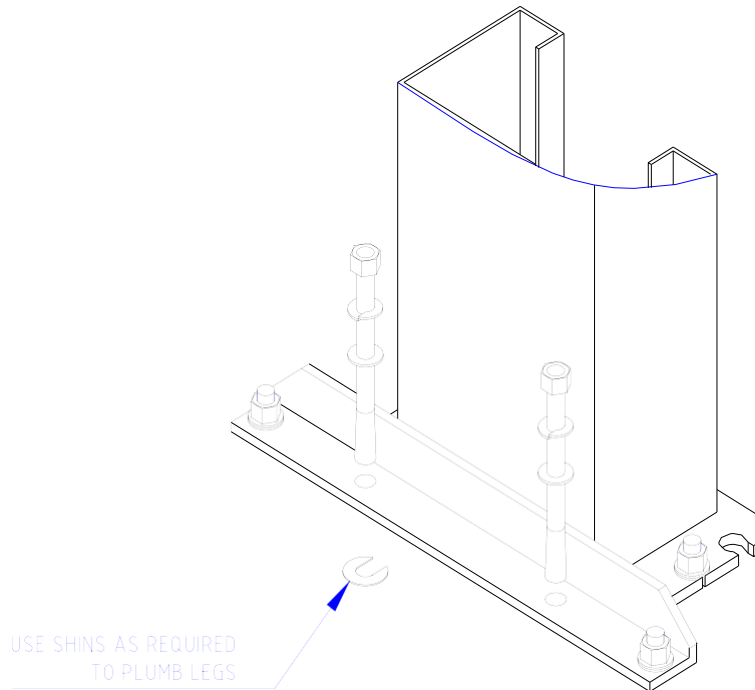

Figure 9
F. Using a level, plumb the main side leg both side to side and front to back. Shim the leg as necessary next to and on both sides of the anchor bolts, figure 9. If more than **1/2" of**